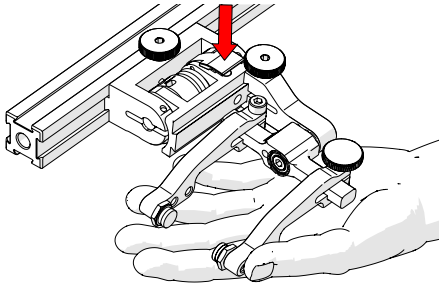

Fig. 87 - Lift slightly and press latch
2. Lift the probe holder slightly and press the latch button (Fig. 87) to release the probe holder the full 45° degrees.